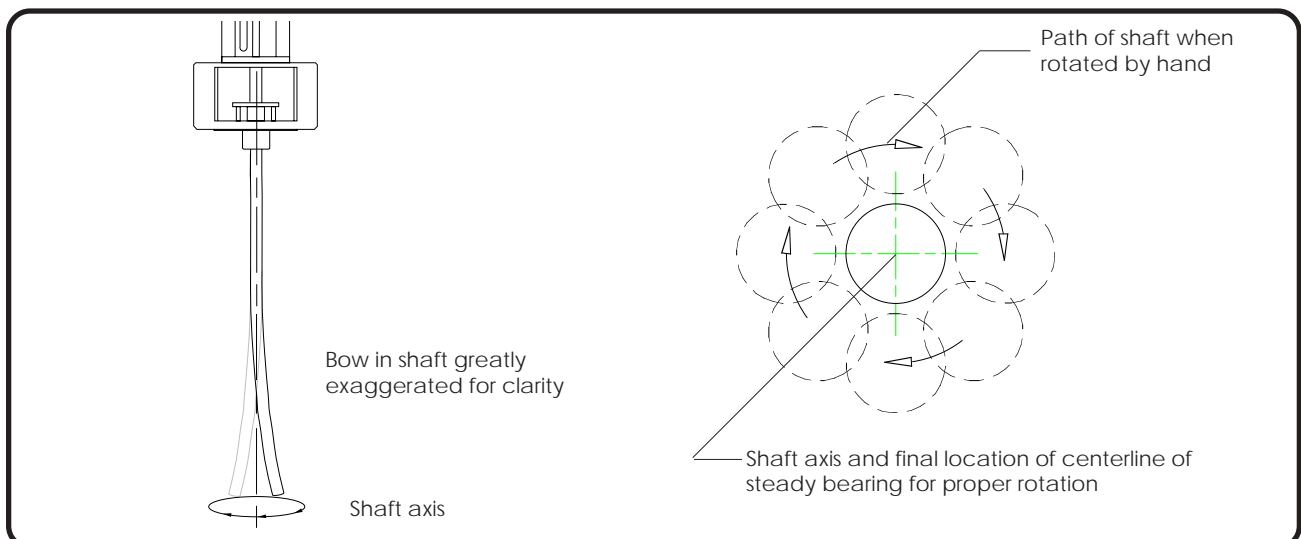

FIGURE 5.1
5.1 This section is for those mixers which include the optional steady bearing to accommodate longer than standard mixer shafts. A steady bearing must be installed only after the drive assembly and lower mixer shaft have been assembled and firmly bolted in place. **DO NOT** predetermine the exact bearing location from tank and mixer outline dimension drawings. The vertical center line of the steady bearing must coincide with the shaft's axis of rotation to minimize bearing preload (see Figure 5.1). This axis may not necessarily be at the center of the tank. The mixer shaft must be hand rotated (using input shaft coupling or motor fan) with a fixture attached to the shaft to mark a line on the tank bottom. **NEVER**